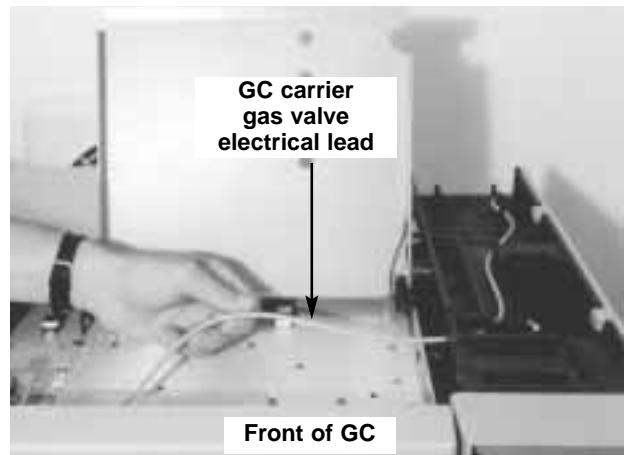

Fig 3.34 Feed the electrical lead from the solenoid valve through the rear of the GC.
9. Feed the GC carrier gas solenoid valve electrical lead from the injection port to the rear of the GC. Keep the lead away from any hot surfaces. This line must exit through an opening in the back panel of the GC so that it can be plugged into the S.P.T.D. controller later. **See Figure 3.34**